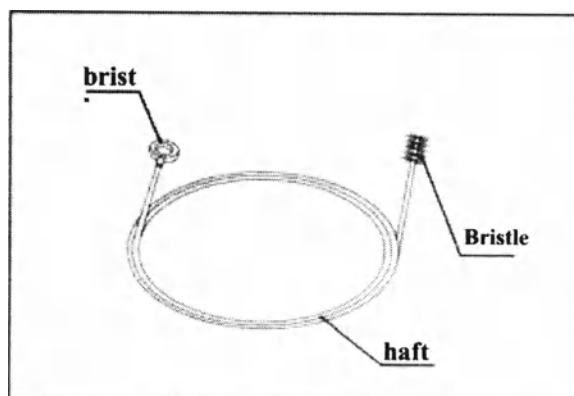

Fig 7.5
Pipe cleaning brush is used to brush the inside of the working channel. (Fig 7.5)
1. Check for loose or missing bristles. (See Fig 7.5)